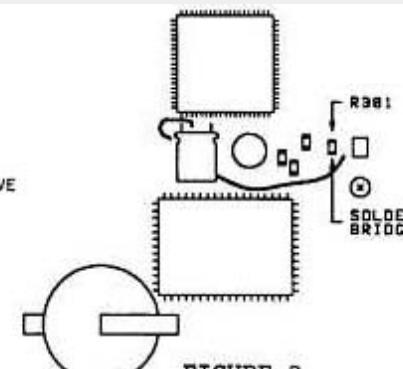

FIGURE 2
5. Locate chip resistor R301 on the Control board inside the front panel of the transceiver. Figure 2.